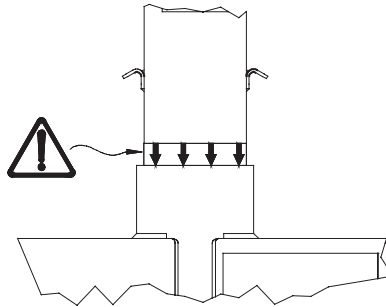

Figure 25. Insertion Marking Label on Top Column 4.7.
- With the Top Frame still standing on the ground, insert the Top Column 4.7/SkyReach Adaptor 5.9 unit into the Top Frame, observing that the Insertion Marking Label is in position, see Figure 25.